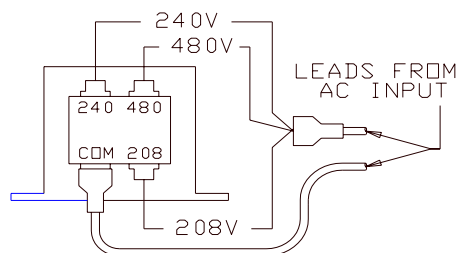

FIGURE 8J VOLTAGE SELECTION ON PRIMARY
- 6) Locate the Control transformer. Change the primary input connection in accordance with the voltage printed on the transformer (Refer to FIGURE 8J).